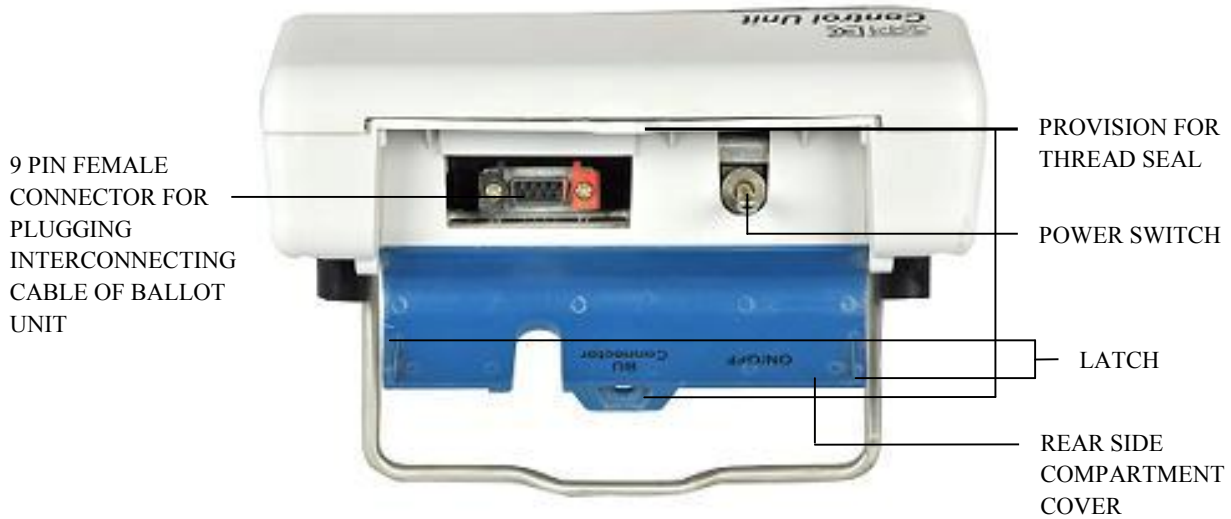

Fig.13 View of rear compartment
23. The rear side portion of the Control Unit has also a compartment with a cover. This cover is hinged in the rear side and opens swinging downwards. Two latches are provided on the cover for locking. This has a provision for thread sealing. The cover when opened will reveals a 9 pin female connector on the left hand side for plugging the interconnecting cable from the Ballot Unit and a power switch in the right hand side, for switching the CU 'ON' or 'OFF' (Fig. 13).
26. Display panel displays the data on two rows of total twenty four characters (Fig 13).
##### Power Switch (Fig. 13)